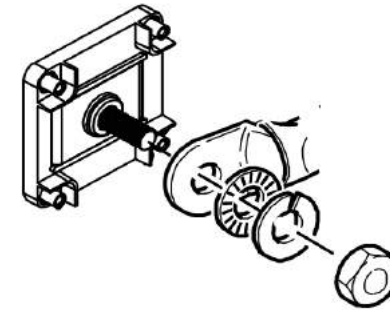

Figure 16 DC Cable Connections
Use only appropriately sized copper cable. Loose connections, improper connections, and under-rated cables will overheat. Make sure that the supplied bolts on the inverter/charger are tightened to a torque of 15–16 ft-lbs (20.4–21.7 Nm). Torque all other connections to the manufacturer's specifications. Make sure the DC cable, washers, and bolt are assembled in the order shown in Figure 16.
4. Connect one connector on the POSITIVE (+) cable to the POSITIVE DC terminal on the inverter/charger, as shown in Figure 16. The connector goes on first, then the flat washer (steel), lock washer (steel), and 3/8" bolt (brass).
6. Connect one connector on the NEGATIVE (–) cable to the NEGATIVE (–) DC terminal on the inverter/charger, as shown in Figure 16. The connector goes on first, then the flat washer (steel), lock washer (steel), and 3/8" bolt (brass).